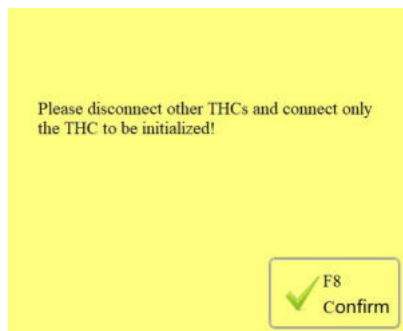

Figure 12.2 The T H C initialization link
- Enter the governor configuration interface: connect the actual governor 1 to the system and disconnect other regulators.Click the [Initialize THC1 connection] button.A confirmation dialog box will pop up, as shown in Figure 12.2